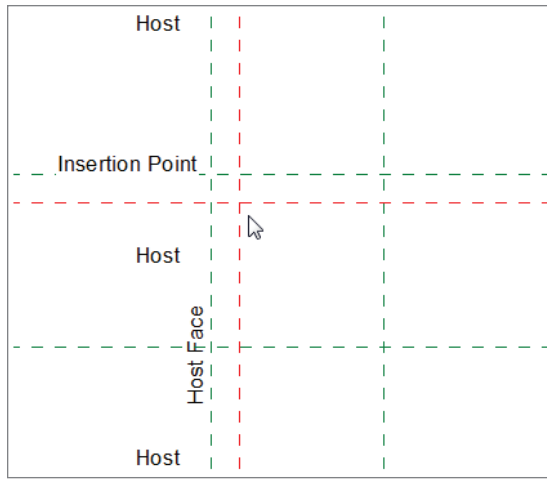

FIGURE 17.4 Offsetting two more reference planes
3. Offset the left vertical reference plane to the right (see Figure 17.4).